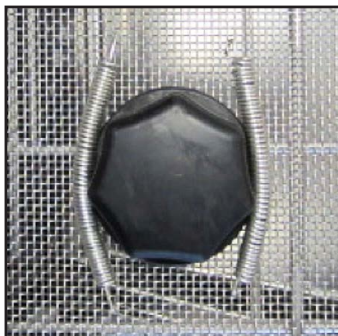

Figure 4–2 Knob Cover Held cup-side-down With Stainless Steel Springs in Wire Mesh Basket
5. Place knob covers into automated washer wire mesh basket. To prevent residual water buildup in knob covers, use stainless steel springs, plastic baskets, or similar corrosion-resistant devices to hold them in place so they remain open-end facing downward for the duration of the cleaning cycle, as shown in (*Figure 4–2*).